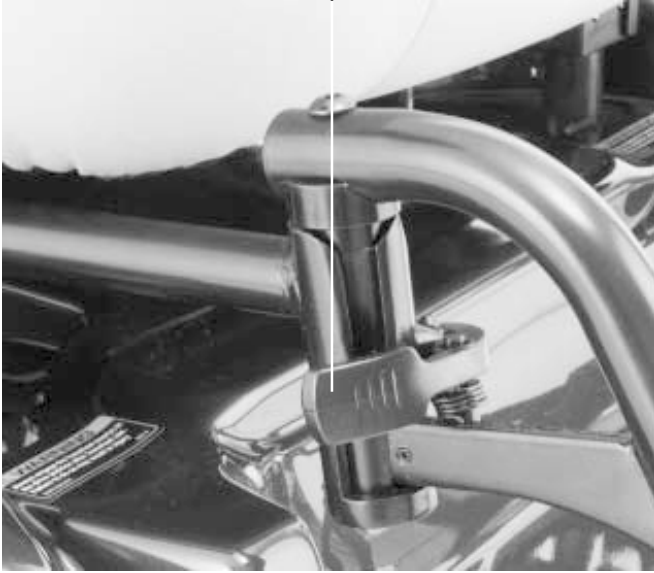

Figure 22. Swing-Away Footrests
1. Push in the release lever. See figure 22.